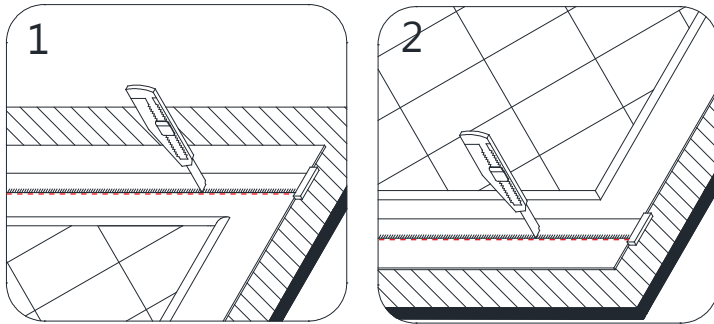
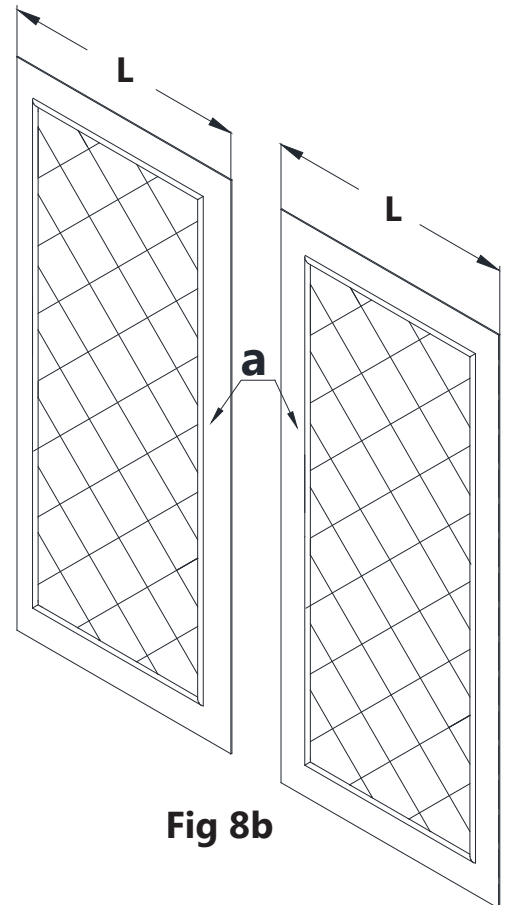

Fig 8a
Fig 8b
8. Place the **Back Panel (#02)** onto a flat piece of plywood or particle board. Use a T-square and a sharp industrial knife to score along the cut lines (from the previous step) on the **Back Panel (#02)** and continue scoring until fully cut through the panel. **(Fig 8a and Fig 8b)**